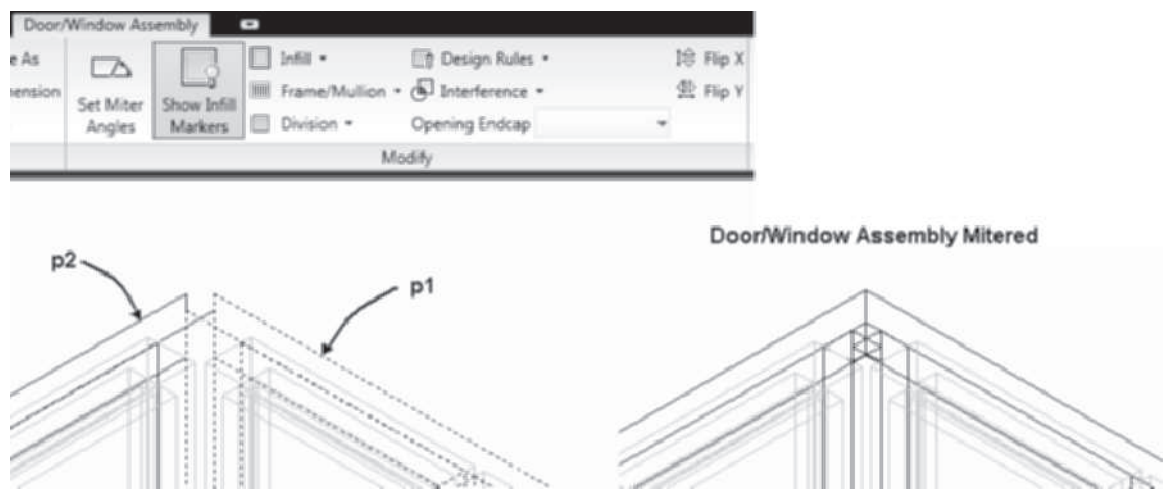

FIGURE 6.34 Miter start and end of door/window assembly
1. Select the door/window assembly at **p1** as shown in Figure 6.34, and choose **Set Miter Angle**.
2. Select the second grid assembly at **p2** as shown in Figure 6.34. Units are mitered as shown in Figure 6.34.
3. The miter is displayed only in pictorial view as shown in Figure 6.34.